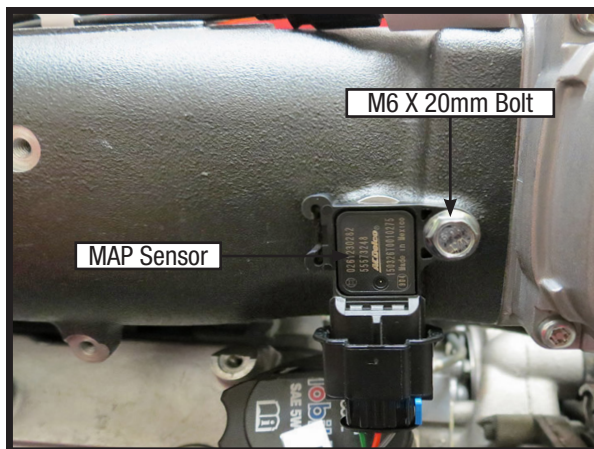
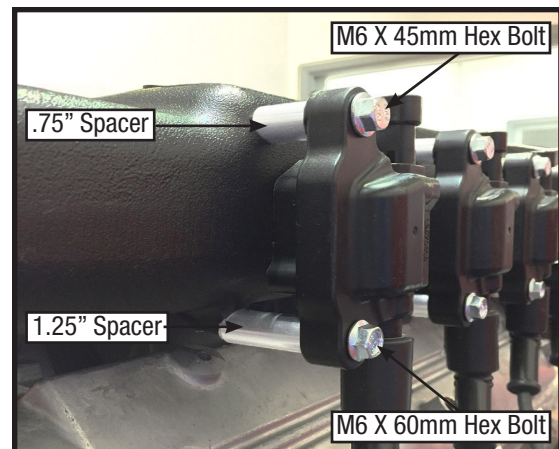

**Figure 5 - Plenum Bolt Placements**
**Figure 6 - Bolt Tightening Sequence**
- Secure both plenums to the manifold by installing three (3) of the supplied M6 X 30mm hex flange head bolts onto the top row of holes closest to the flanges, four (4) of the supplied M6 X 60mm hex flange head bolts onto the lower row of holes closest to the plenum, and two (2) of the supplied M6 X 40mm hex flange head bolts onto the ends of each plenum as shown in **Figure 5**. **(NOTE: Finger tighten all of the bolts first and ensure that the plenums are evenly positioned on the manifold before torquing them in place)**. Tighten the bolts in two steps to 10 ft/lbs. following the torque sequence shown in **Figure 6**.